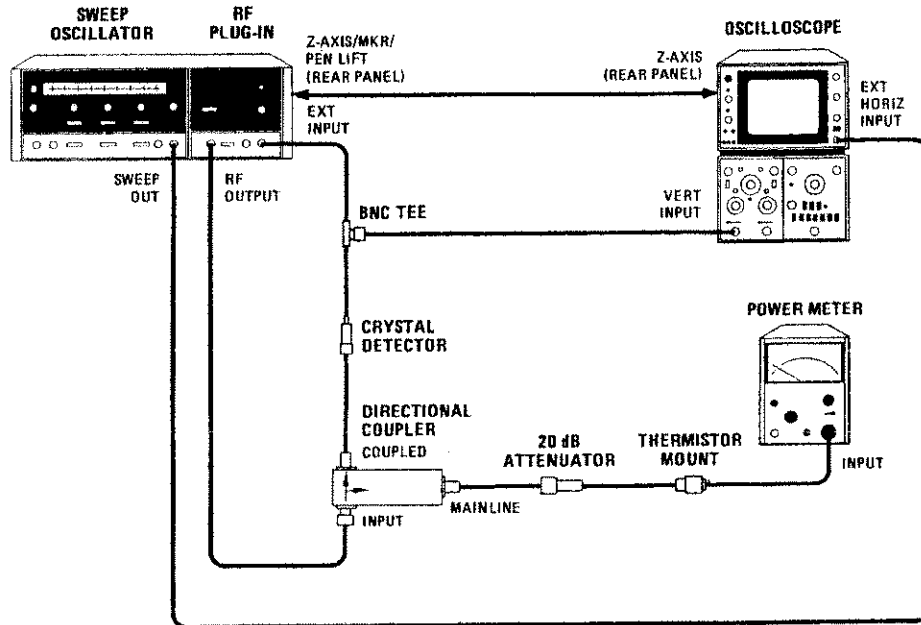

Figure 4-7. Crystal Detector Leveling Test Setup
Equipment listed is for three test setups (Figures 4-7, 4-8 and 4-9).
- a. Connect equipment as shown in Figure 4-7.